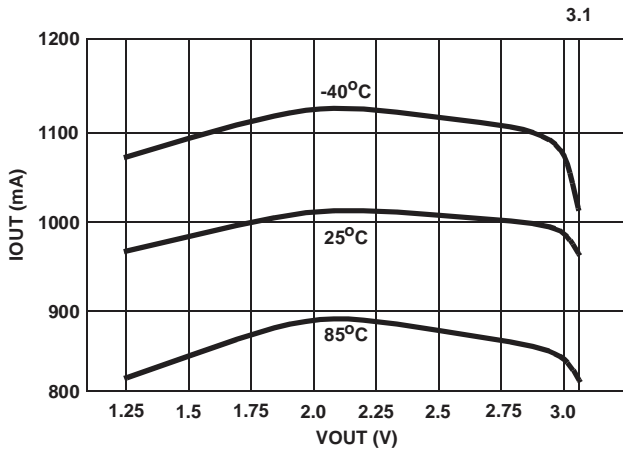
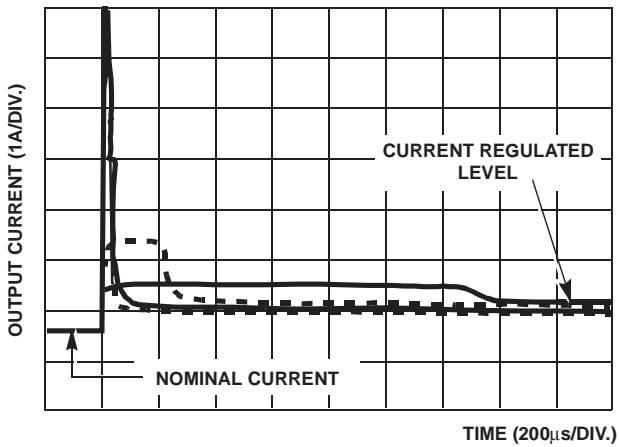
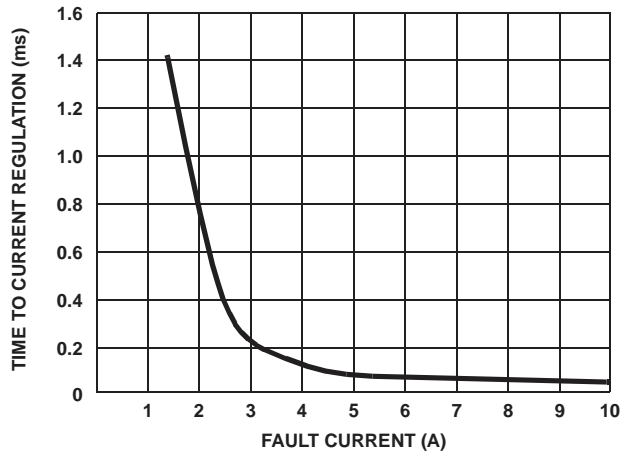

FIGURE 4. CURRENT REGULATION vs VOUT (VIN = 3.3V)
FIGURE 6. OC TO CR SETTLING TIME WAVEFORMS
FIGURE 7. CR SETTLING TIME vs FAULT CURRENT
The ISL6436 has integrated current sensing on the power MOSFET that allows for rapid control of OC events. Once an OC is detected the ISL6436 goes into its current regulation (CR) control mode. The ISL6436 CR level is set to a nominal 1A. This current regulation is $\pm 25\%$ over the full operating temperature and voltage bias range. See Figures 4 and 5 for illustrative curves. The speed of this control is inversely related to the magnitude of the OC fault. Thus a hard over current is more quickly controlled than a marginal OC condition. See Figure 6 for waveforms illustrating this and Figure 7 for an accompanying graph.